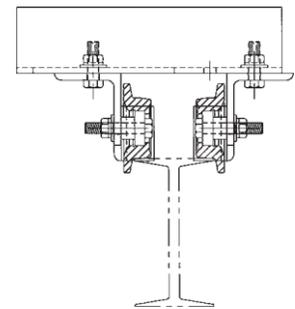

Figure 5 – Top running
1/2" axle bolts to 30 foot-pounds torque. Place the adjustable end truck on the parallel beam/rail. Loosen the 1/2" bolt located in the slot at the end of the truck. Move the two (2) end truck halves so that there is 1/8" clearance between the wheel flanges and the beam flange/rail on each side. Tighten the 1/2" bolt to 85 foot-pounds torque. Repeat procedure for the other end of the truck. **The bolt must be tight or the truck might come off the beam.** Repeat the above procedure on the second end truck included with your kit (See Figures 5 and 6).
3. Position the trucks directly opposite one another on their runways. Be sure each truck is centered on the beam/rail, not riding toward either side. Carefully measure the distance between the eight (8) holes for attaching the span-beam to accept 1/2" diameter grade 5 bolts, which are included in your kit.